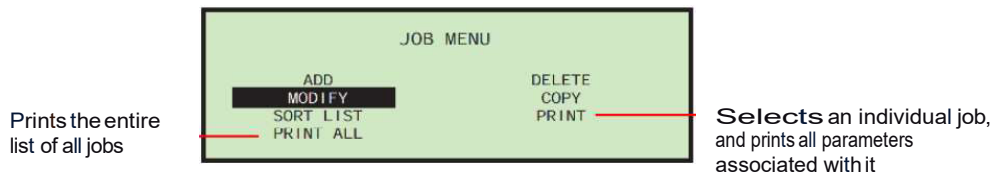

FIGURE 49: Job Menu screen
- 1 On the Job Menu screen (Figure 49), select **SORT LIST**.